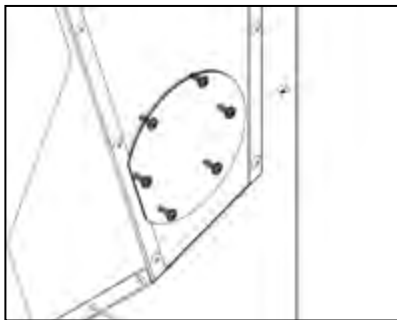

Figure 10-2: Location of six screws on internal plate
9. Working through the large opening (at the lower rear corner of the right hand boiler side panel), undo and remove the six screws from the internal plate on the right hand side of the boiler pellet hopper. Refer to Figure 10-2.